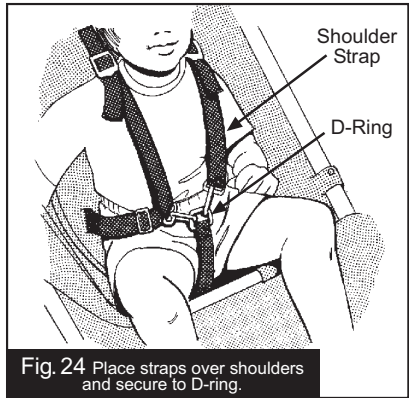
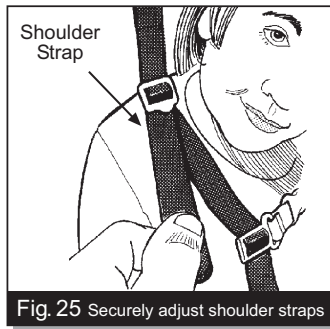

Fig. 24 Place straps over shoulders and secure to D-ring.
Fig. 25 Securely adjust shoulder straps
**HARNES:** To secure your child in the seat, put one strap over each shoulder and connect the waist line snap hooks to the crotch strap D-ring as shown in Fig. 24. Adjust shoulder straps to be snug and secure as shown in Fig. 25.